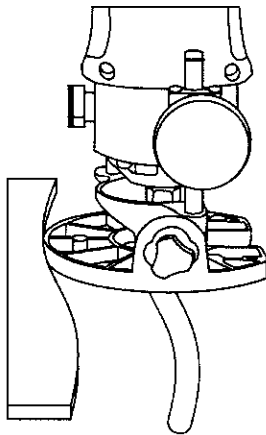

Fig. 20
1. Make a template from hardboard or other similar material to the shape you require (see Fig. 20).